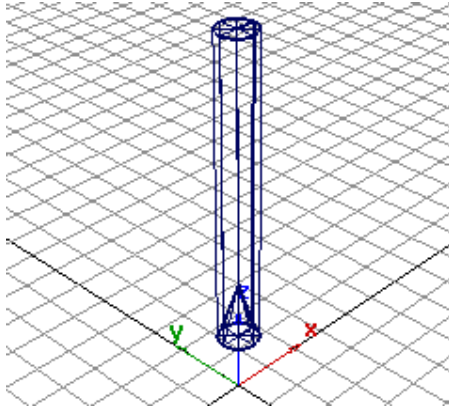

Figure 2-117 Model after scaling the tip
2. Enter **100, 100, 150** in the promptline and press ENTER; the tip of the pencil is scaled, as shown in Figure 2-117.